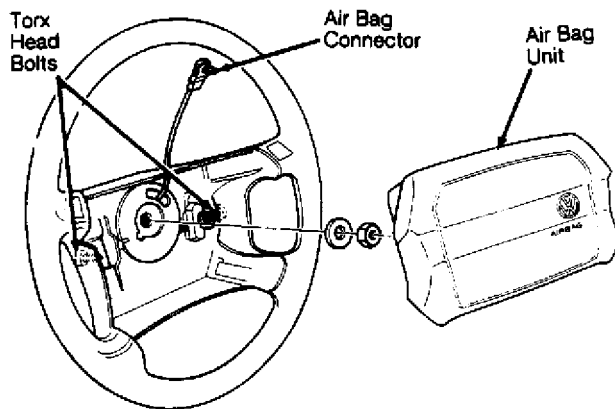

Fig. 2: Removing Air Bag Unit
2) Air bag unit is located on steering wheel hub. Remove Torx head retaining screws on rear of steering wheel. See Fig. 2. Lift air bag unit from steering wheel, and tilt air bag unit downward. Disconnect wiring connector from air bag unit.